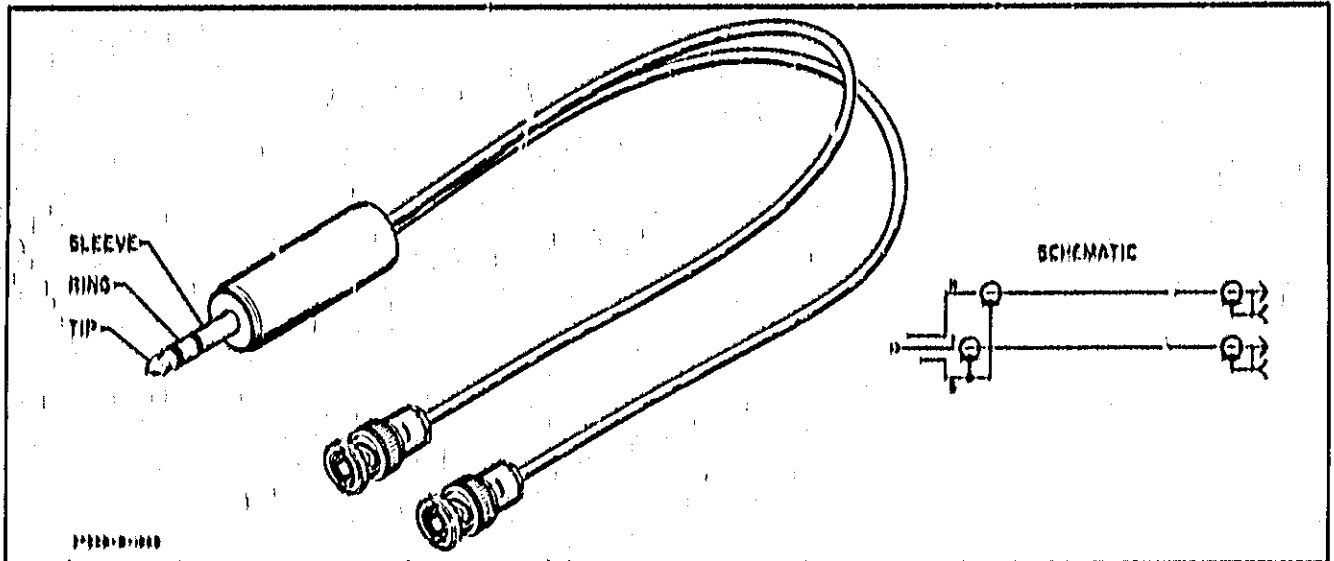

Figure 5-1. Balanced BNC to 310 Plug
- f. Change the 654A to 600 BAL and change the 3555B to CARRIER, 600 BAL. Connect the 654A 600 BAL output to the 3555B 310 jack input using a balanced cable (See Figure 5-1). Connect sleeve (s) to ground (⊥) on the 3555B front panel terminal posts.